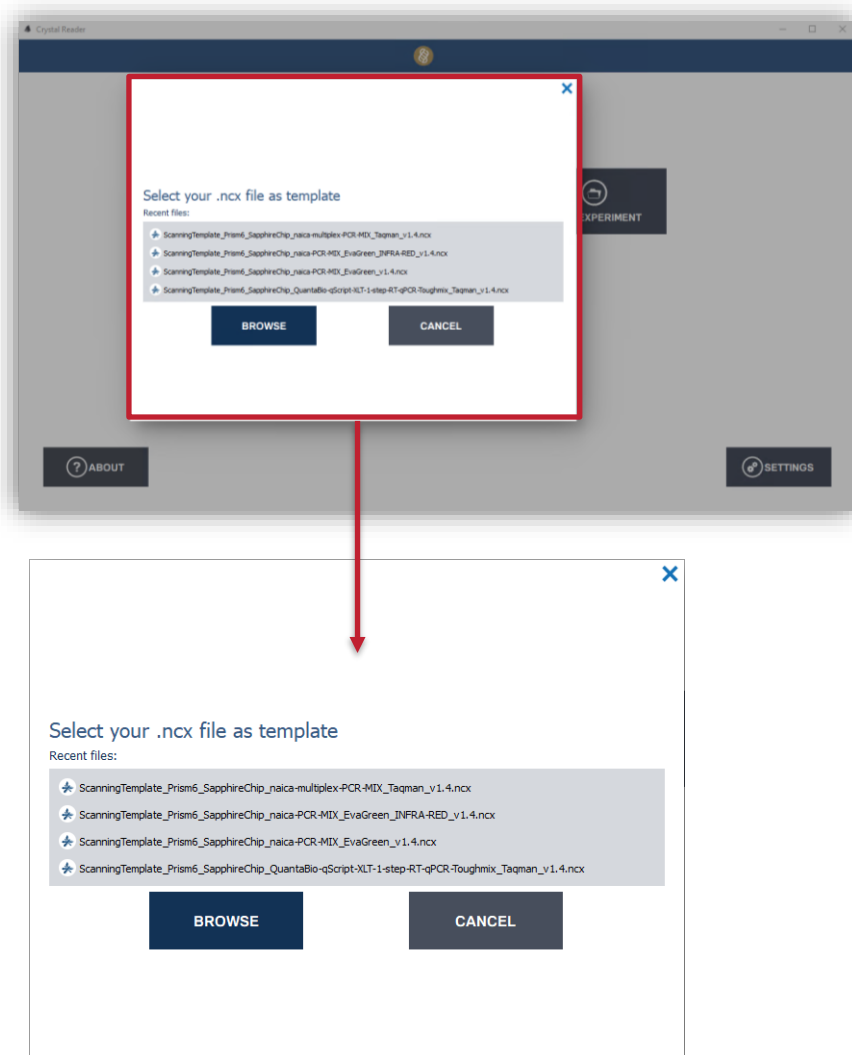

Figure 7: Crystal Reader software prompt to select the scanning template (“.ncx” file) for the experiment.
Just load a ".ncx" as an empty experiment (Figure 7) and the user is then instructed to modify or add the data corresponding to the experiment.
- On the Crystal Reader software homepage click on “NEW EXPERIMENT”. A pop-up window appears for scanning template selection (Figure 7).